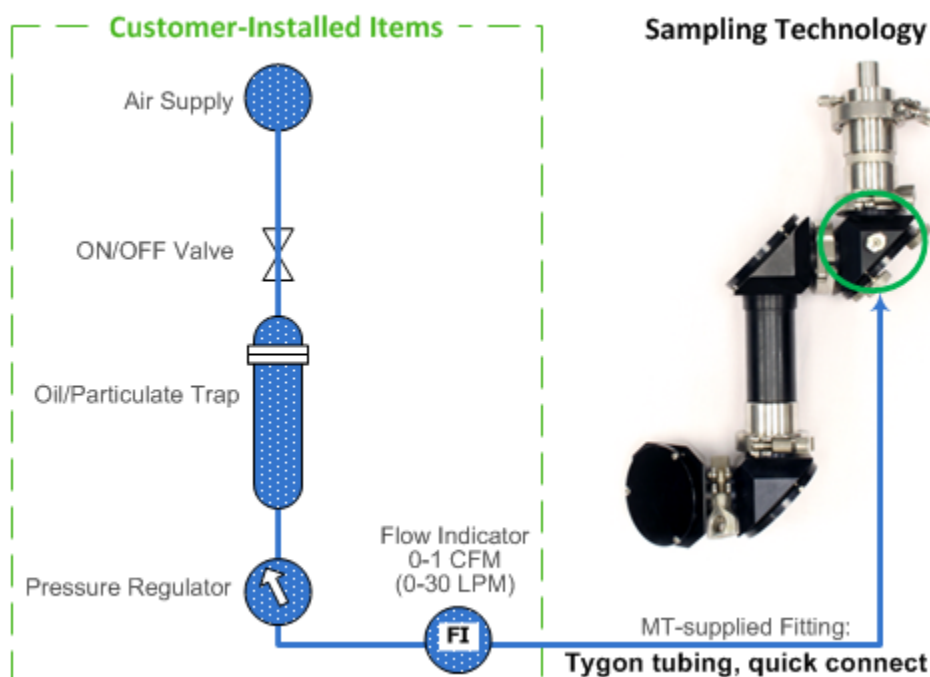

Figure 2-12 Purge-to-sampling technology flow diagram
2. Attach the METTLER TOLEDO-supplied fitting to the sampling technology as shown in Figure 2-12.